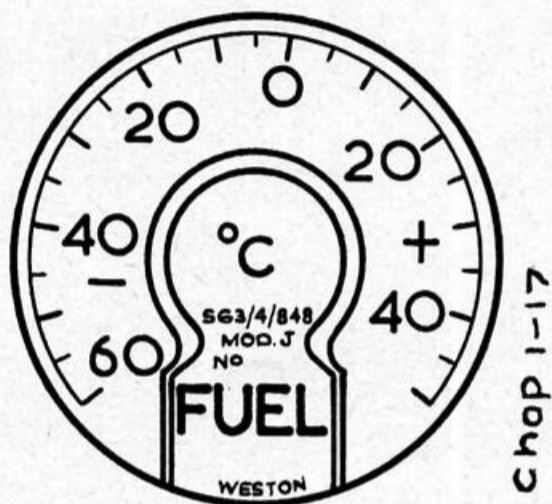

Fig. 1. Indicator, Type S63.4.848
1. This indicator (Ref. No. 6A/5082) (fig. 1) is calibrated in degrees C from -60 to +50; the indicator is controlled by variation of temperature in a resistance bulb which obeys a platinum law.